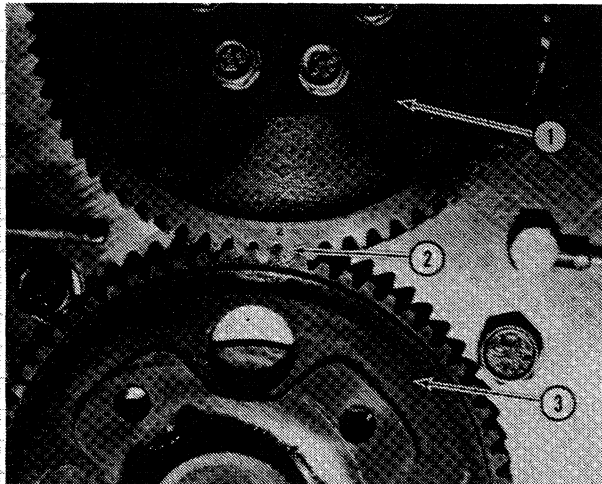

FIG.113 ALIGNING NUMBERS ON T-82304
Align the numbers "2", and install gears, Fig.113 (2). Rotate the camshaft gear enough to expose the holes in camshaft thrust plate and block plate. Install the four capscrews that hold camshaft thrust plate to block and tighten to a torque of 2.4 daNm (18 lbs.ft.).